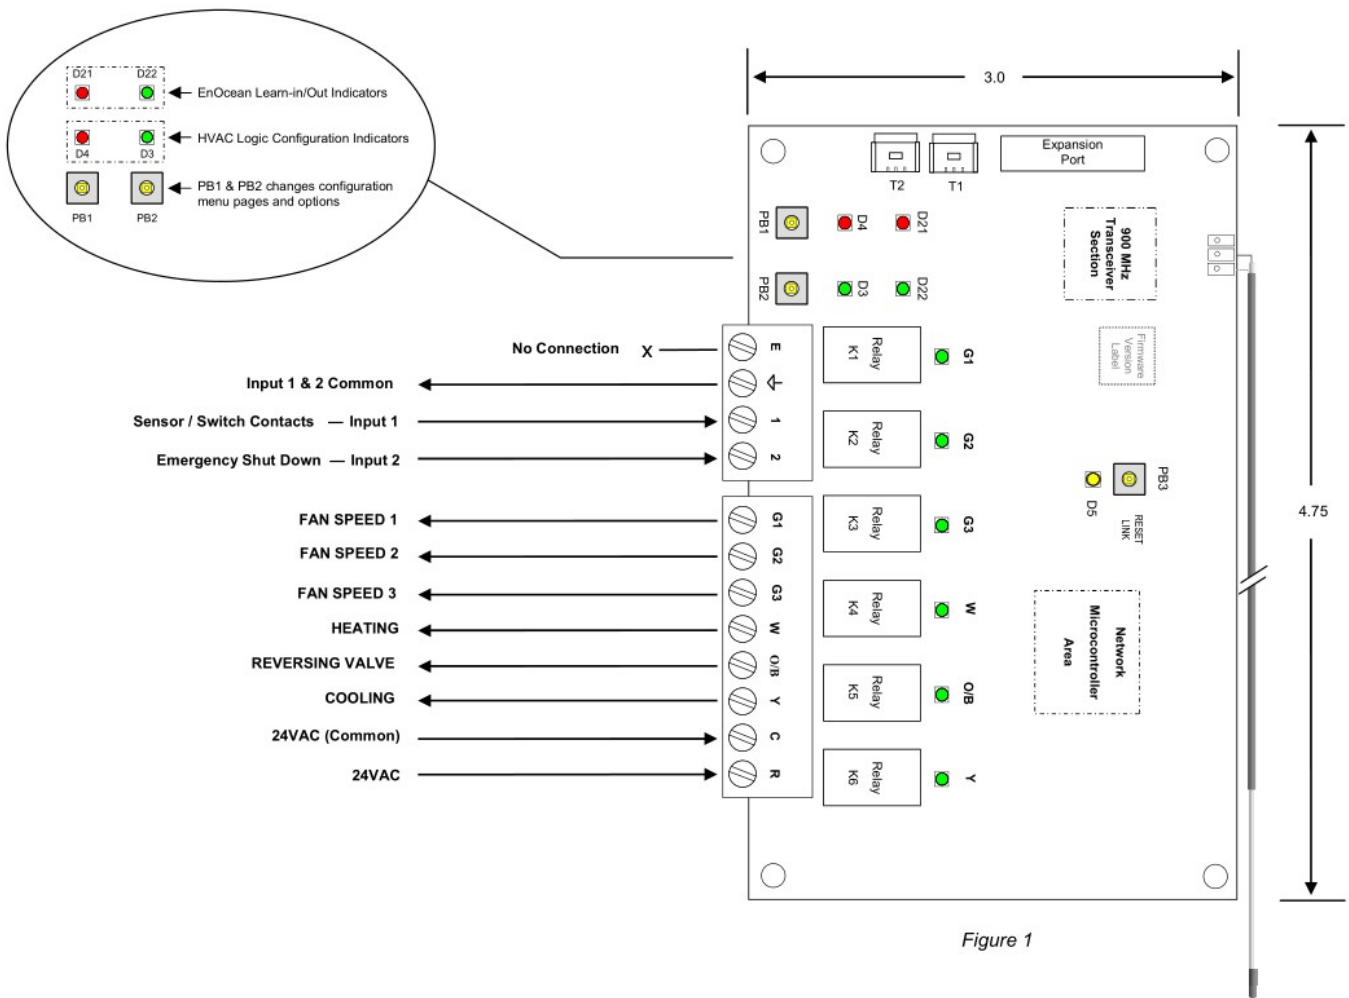

Figure 1
The model 17200 is an open PCB (Figure 1). It should be mounted in a clean, dry location that also provides physical protection and minimizes thermostat connection wire length between the HVAC equipment and the model 17200 PCB. Pick a location where the PCB will be safe from mechanical damage, excessive heat or cold and risk of condensate.
Three (3) buttons and four (4) LED indicator lights are used to configure HVAC control logic and occupancy system options and EnOcean devices Learn-In. 17200 RCN configuration setup is fully self-contained, no other equipment is required. PB3 (see figure 1) is used to enter into HVAC logic configuration mode.